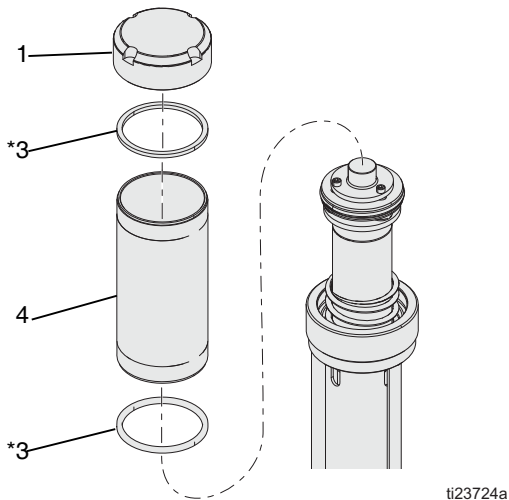

FIG. 10
2. Remove cap (1), cylinder (4), and square gaskets (3\*). Inspect all parts, including spring under cap (not shown in FIG. 10) for damage and replace if necessary. See FIG. 10. Unscrew by hand or use a chain wrench to prevent distortion of the cylinder's shape.